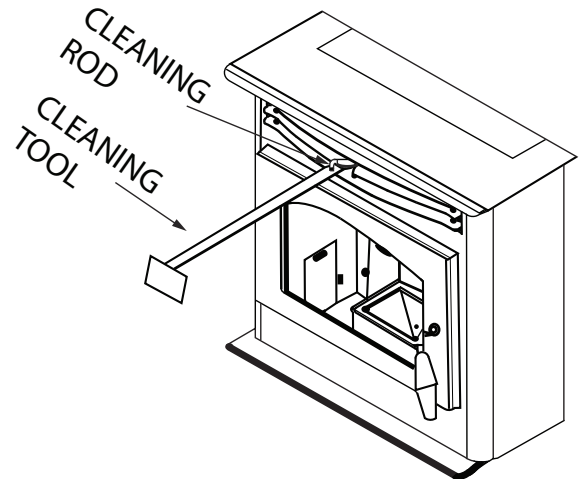

FIGURE 25
- Clean heat exchanger tubes (see "CLEANING" and Figure 25).
- Heat Exchange Tubes – Your Breckwell stove is designed with a built-in heat exchange tube cleaner. This should be used every two or three days to remove accumulated ash on the tubes, which reduces heat transfer on the SP22. Insert the handle end (with hole) of the cleaning tool onto the cleaning rod (refer to figure 25).